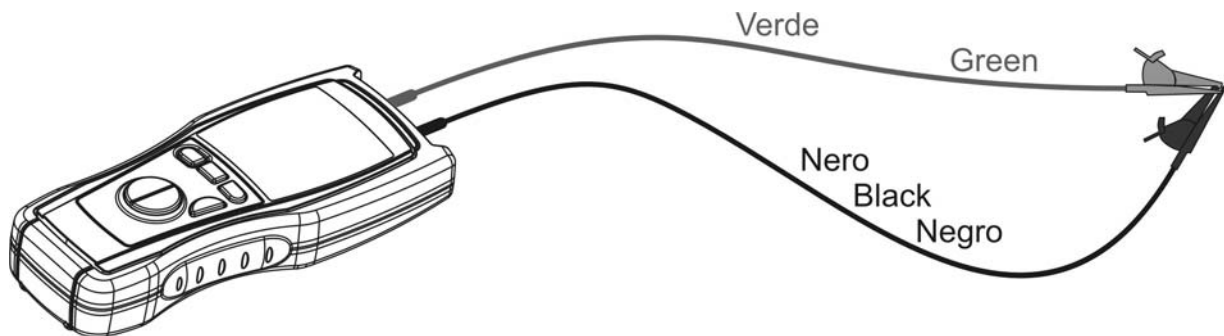

Fig. 9: Connection of the instrument's terminals during calibration procedure
3. Short-circuit the cable ends with each other as shown in Fig. 9 making sure that the metallic parts of test probes and crocodiles are in good touch